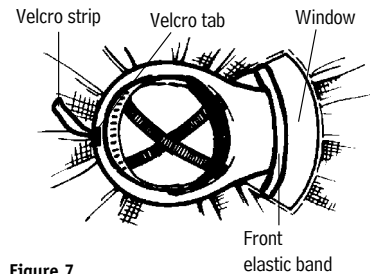

Figure 7
5. Insert hard hat into respirator hood with cap visor facing front of hood. Tuck cap visor on top of front elastic band sewn into hood (see Figure 7).